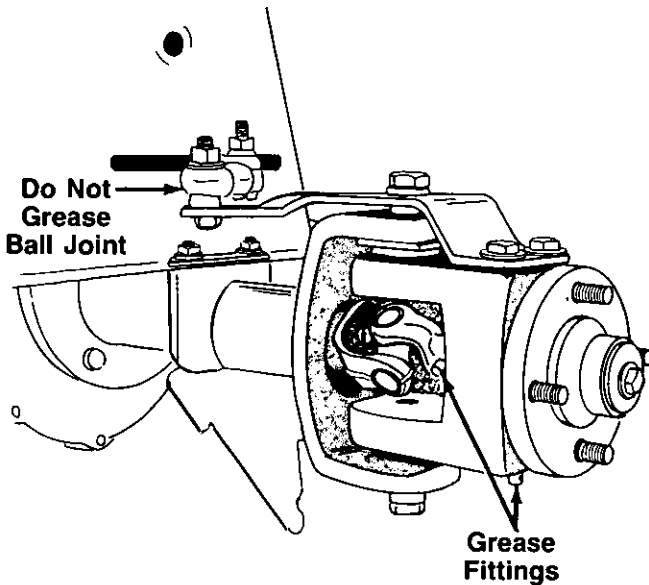

FIGURE 24.
There are grease fittings provided on the rear wheel bearing housings and U-joints. Lubricate every 25 hours of operation using automotive multi-purpose grease. See figure 24. The rear tie rod ends have service-free inserts. Do not oil or grease the ball joints.
**NOTE:** Figure 24 is shown with rear wheel removed.